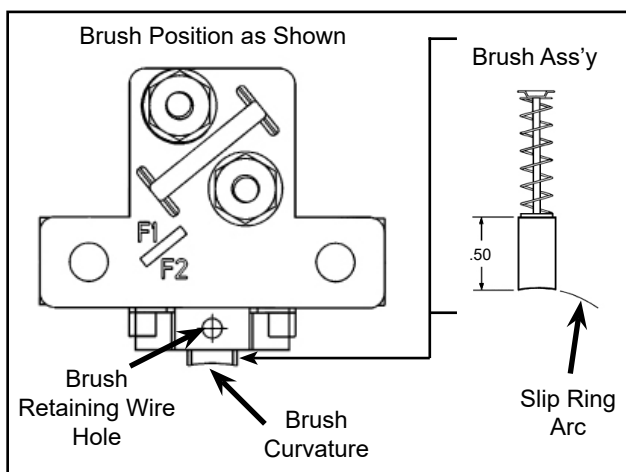

Figure 6.3c - Brush Position in Holder
- (1) Install a new set of brushes, HET P/N ALE-13A into the brush holder. Place each new brush into the brush holder. Brushes must be oriented such that the axis of the curvature of the brush face is parallel with axis of F1/F2 terminals. Refer to Fig. 6.3c. If checking brushes only, be sure to place in the same position and orientation as removed.